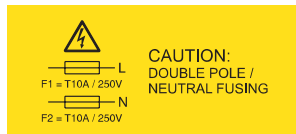

Figure 4. Fusing caution label
4. Verify that the fusing caution label is installed on the 2104 Model DS4 and Model TS4 power supply. See Figure 4.